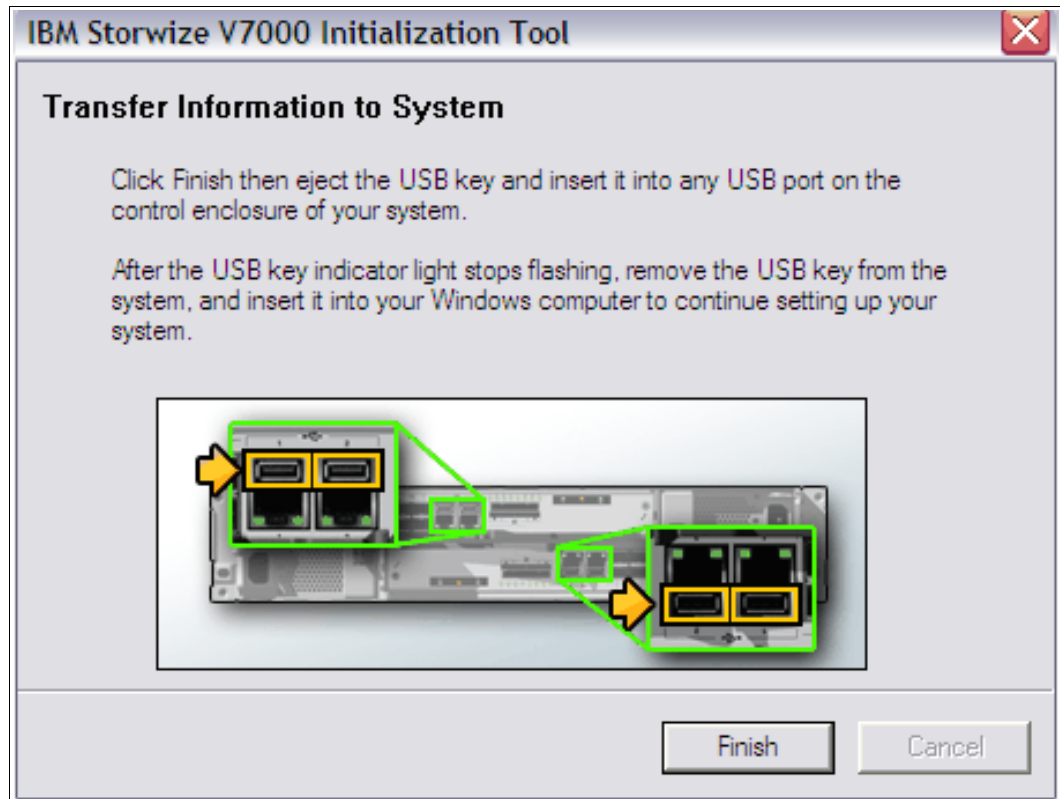

Figure 2-10 Initialization application - Finalizing the initial setup
3. Click **Finish** (Figure 2-10).